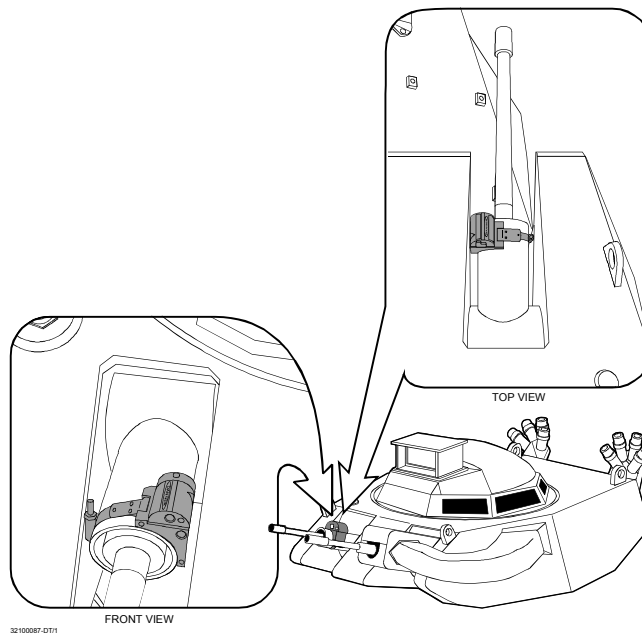

Figure 2-7. M2 SAT Installation.
- f. Torque to 60 inch-pounds using 7/16" deep socket. (See Figure 2-7.)